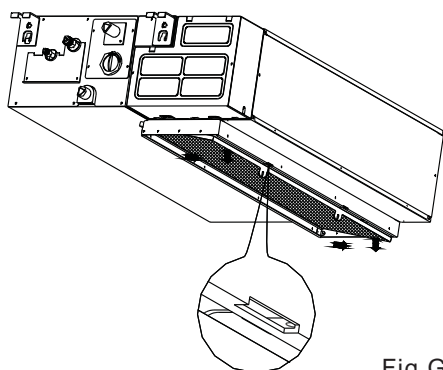

Fig.G2
2. For the unit is a descensional ventilated one, please push the filter up slightly to let the position retainer escape away from the flange fixed holes, and take off the filter according to the arrow direction shows in the Fig.G2.